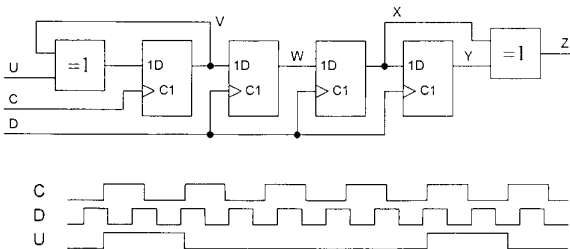

Figure 3
2. *Figure 3* shows a circuit containing four flipflops and two exclusive-or gates. The circuit has two independent clock signals, C and D, which may have different frequencies. The input signal, U, consists of pulses that last exactly one cycle of C and whose transitions occur slightly after the rising edge of C.